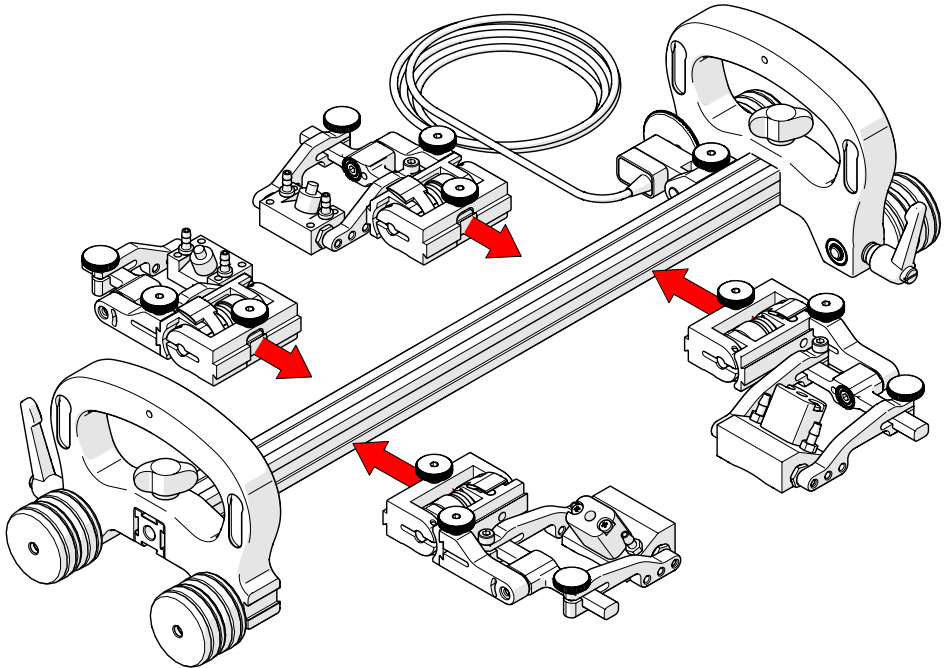

Fig. 83 - Attach probe holders to configuration
2. Assemble the appropriate configuration (Fig. 83). Attach the slip joint probe holders to the frame bar where appropriate.